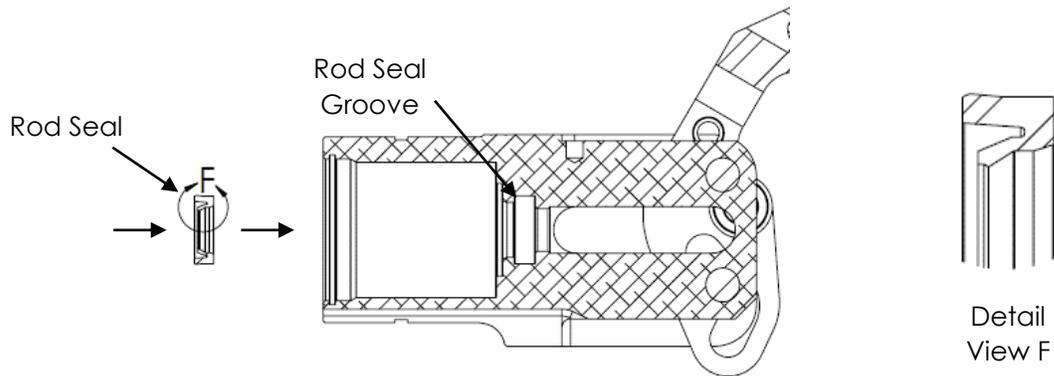

Fig.42
14. Squeeze the rod seal and insert it in the seal groove of the gripper body. Press and properly seat the seal (see Fig.42).